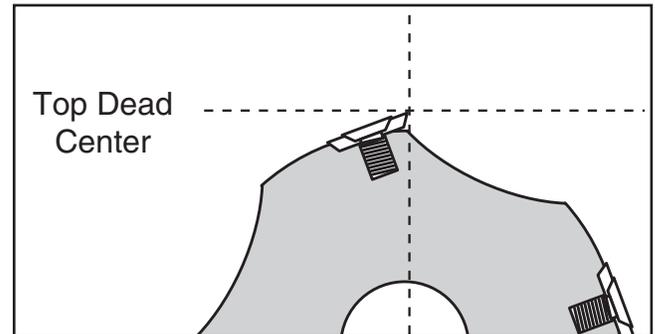

Figure 20. Cutterhead insert at top-dead-center.
17. Place a straightedge on outfeed table so it extends over cutterhead, and rotate cutterhead pulley until one of the carbide inserts is at top-dead-center (TDC), as shown in **Figures 20 & 21**.